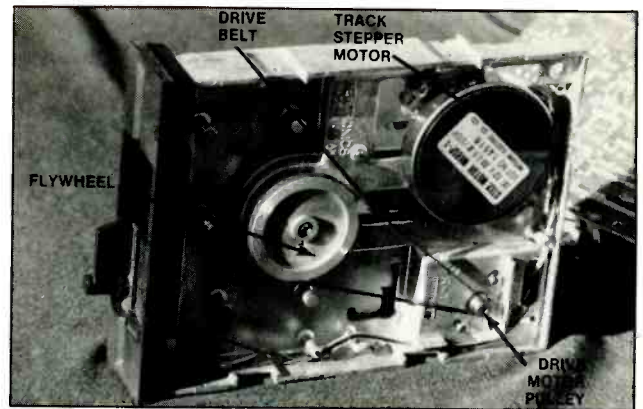

Figure 4. This bottom view of the disk drive shows the track stepper motor, the drive-motor pulley, the drive belt and the flywheel.
- Underneath the mechanical unit (see Figure 4) is the *track stepper motor*, a special type of motor used to precisely position the read/write head. A stepper motor does not rotate like a regular dc motor, but instead turns in increments of a revolution. The more increments a stepper must make for one complete turn, the more accurately it can position the head.